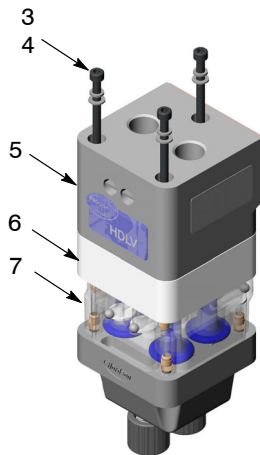

Figure 3 Disassembling Manifolds
2. See Figure 3. Remove screws (3) and hardware (4) to disassemble the top (5), upper Y (6), and pinch valve (7) manifolds.